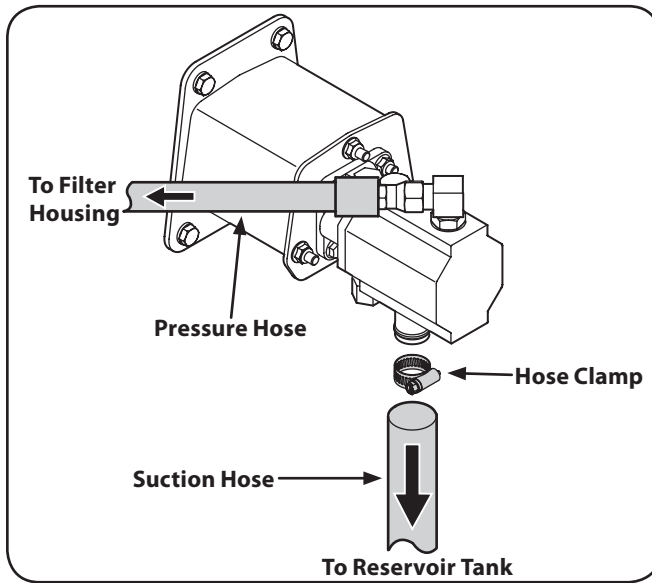

Figure 3-9
3. Attach the end of the suction hose to the fitting on the bottom of the pump. See Fig. 3-9.
3. Secure the pressure hose to the pump and cut the zip tie securing hose guard. See Fig. 3-9.